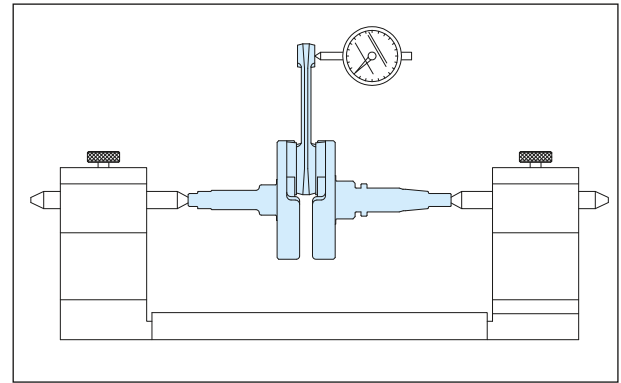

Fig. 3.92
- Measure the big end wear of connecting rod using a dial gauge by the deflection of small end. If the deflection exceeds the limit, replace the crankshaft assembly with a new one. (Fig. 3.92)